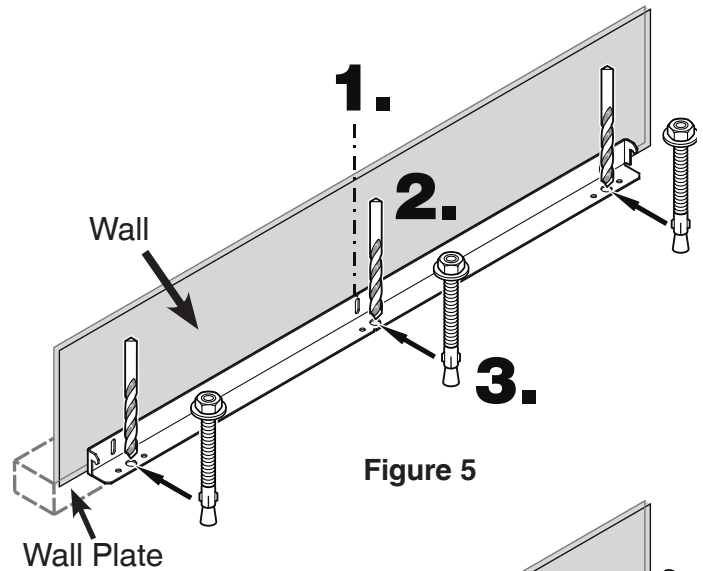

Figure 5
## Mounting the anti tipping device on concrete floors - Figure 5 - 6
2. Drill a 3/8" diameter hole in any position as shown in **Figure 5** using a carbide drill bit.